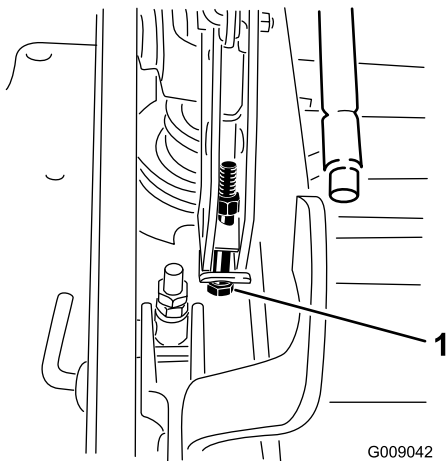

Figure 94
12. If the deck is too low, tighten the single point adjustment bolt by rotating it clockwise. If the deck is too high, loosen the single point adjustment bolt by rotating it counterclockwise (Figure 94).